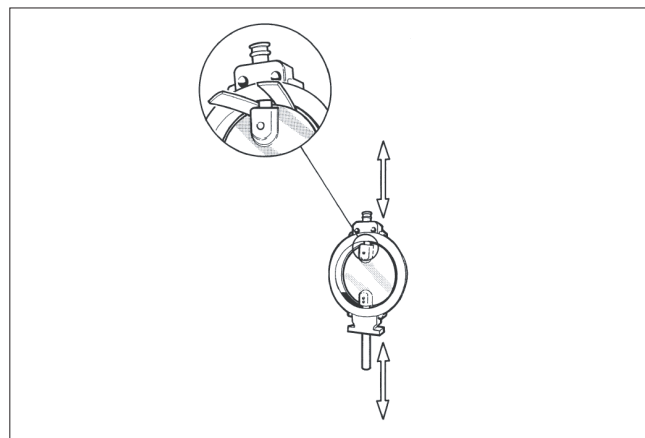

Fig. 16 Protecting the disc during disassembly and assembly
- Set the disc (3) and the shaft (5 & 6) together beforehand. In case the pin holes have been damaged during removal of the old pins the holes can be drilled to a larger pin size. File off any burrs from the shafts.
- Mount the bearings (11) into the body (1) from flow port side.
- Place thrust bearings (12) at the end of the shaft
- Place the disc horizontally on a surface so that the flat side of the disc lays against the surface. Lift the body around the disc so that the shaft bores are aligned with the bores in the disc. Protect the disc (see Fig. 16).